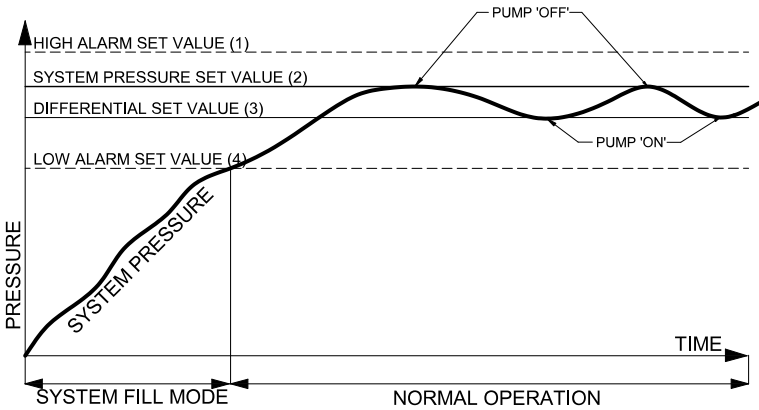

Fig. 20
<p>System pressure (2) see Fig. 20</p>	<p>Sets the required system pressure. Set in 0.1 bar increments up to the maximum set value for the SPU model. SPU 130 & 230, 3.5 bar max., SPU 150 & 250, 4.1 bar max.</p>
<p>Differential pressure (3) see Fig. 20</p>	<p>Sets the pressure the SPU will turn on at as the system pressure falls. Relative to the system pressure. Set in 0.05 bar increments below the System pressure (2), cannot be set above 0.1 bar below the System pressure (2).</p>
<p>Hi Alarm (1) see Fig. 20</p>	<p>Sets high system pressure alarm. Set in 0.05 bar increments above the System pressure (2). Cannot be set below System pressure + 0.05 bar. Alarm auto resets when system pressure is reduced below alarm level.</p>
<p>Lo Alarm (4) see Fig. 20</p>	<p>Sets low system pressure alarm. Set in 0.05 bar increments below the System pressure (2) - Differential pressure (3) - 0.05 bar. Alarm auto resets when system pressure is increased above alarm level</p>